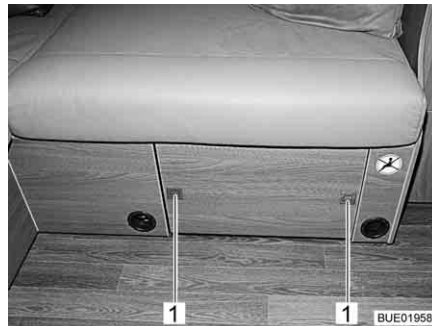

Fig. 114 Coffee table, stored
- Press the push buttons (Fig. 114,1) on the seat box panel. The push buttons jump out.
- Press the push buttons (Fig. 114,1) in until they engage.